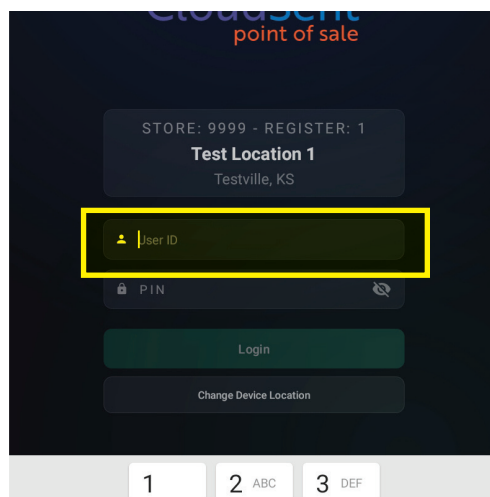

Figure 28
- In the User ID field enter the OPERATOR USER ID# on your CloudSent Log On Sheet found in the Red Bag (Figure 28).